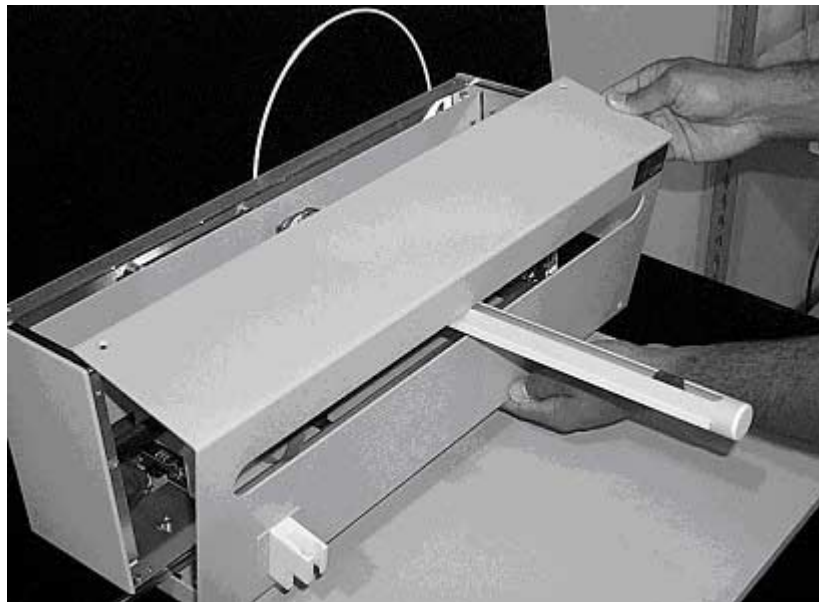

**Figure 1-6.** Removing the tray.
4. The auto sampler tray is the next to be removed. Lift up the tray and pull out. See Figure 1-6.